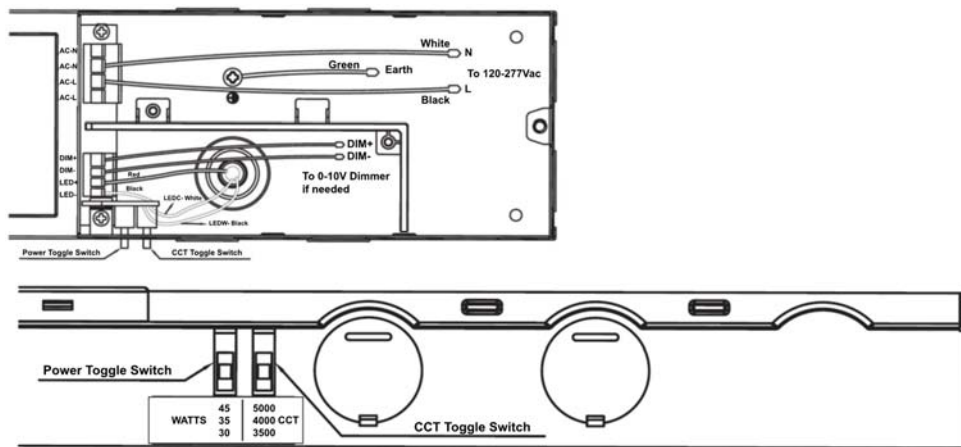

Figure 1
STEP 3: Place the fixture onto the T-grid ceiling (see fig 1), ensuring each of the T-bar support brackets are positioned over the T-bar rails (see fig 2).
Electrical Wiring Instructions (Fig. 1)